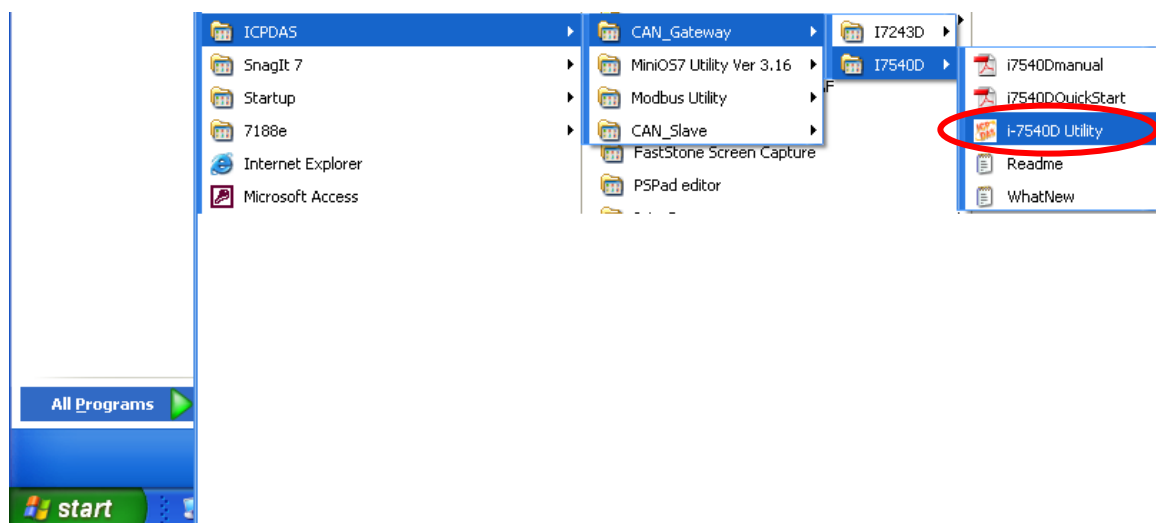

Figure 3-6: You can find “I-7540D Utility“ at the “Start” in the task bar
**Step 7:** After finishing the installation of the I-7540D Utility, users can find it as shown in figure 3-6.